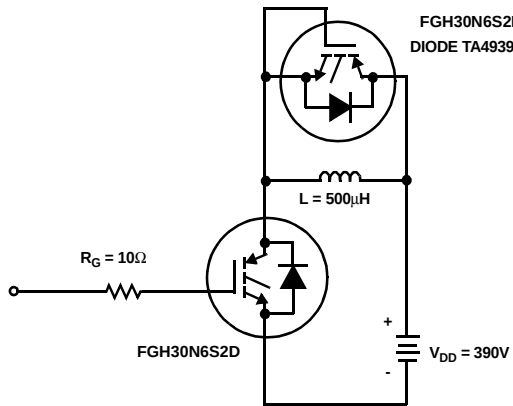

Figure 26. Inductive Switching Test Circuit
| $t_{d(ON)I}$  | Current Turn-On Delay Time  | IGBT and Diode at $T_J = 25^\circ\text{C}$ ,$I_{CE} = 12\text{A}$ ,$V_{CE} = 390\text{V}$ ,$V_{GE} = 15\text{V}$ ,$R_G = 10\Omega$ ,$L = 500\mu\text{H}$Test Circuit - Figure 26  | -  | 6   | -   | ns            |
| $E_{ON1}$     | Turn-On Energy (Note 2)     | IGBT and Diode at $T_J = 125^\circ\text{C}$ ,$I_{CE} = 12\text{A}$ ,$V_{CE} = 390\text{V}$ ,$V_{GE} = 15\text{V}$ ,$R_G = 10\Omega$ ,$L = 500\mu\text{H}$Test Circuit - Figure 26 | -  | 55  | -   | $\mu\text{J}$ |
2. Values for two Turn-On loss conditions are shown for the convenience of the circuit designer.  $E_{ON1}$  is the turn-on loss of the IGBT only.  $E_{ON2}$  is the turn-on loss when a typical diode is used in the test circuit and the diode is at the same  $T_J$  as the IGBT. The diode type is specified in figure 26.